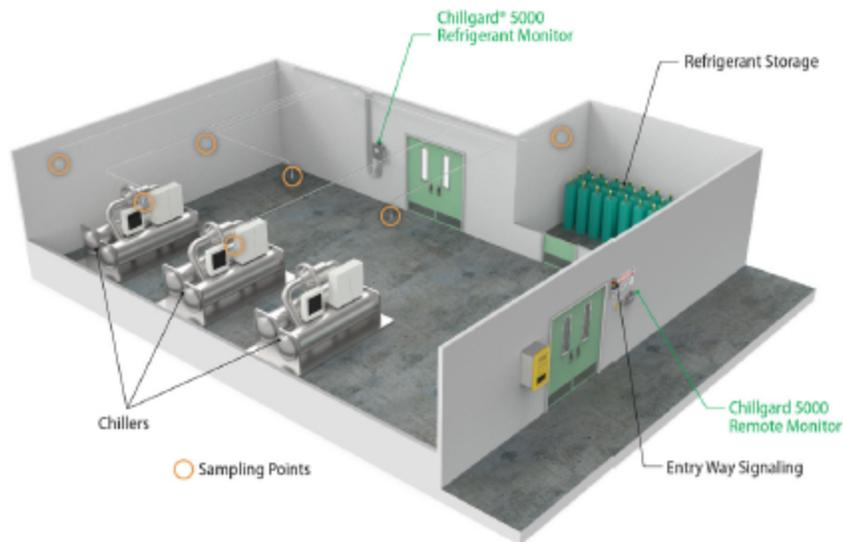

Figure 8 Mounting location (Ammonia)
- For ammonia, mount the lines near the ceiling (Figure 8 ).
- With at least 3 in. (7.62 cm) of clearance around all sides for proper ventilation, calibration, and servicing. Make sure there is adequate space to connect the external wiring and sample line piping (Figure 8 ).